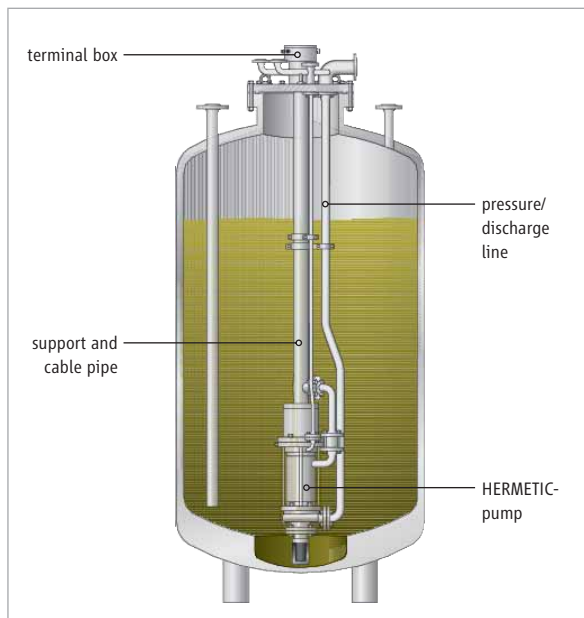

Figure 6: Installation vessel pump
- direct placing in the tank [Figure 6]